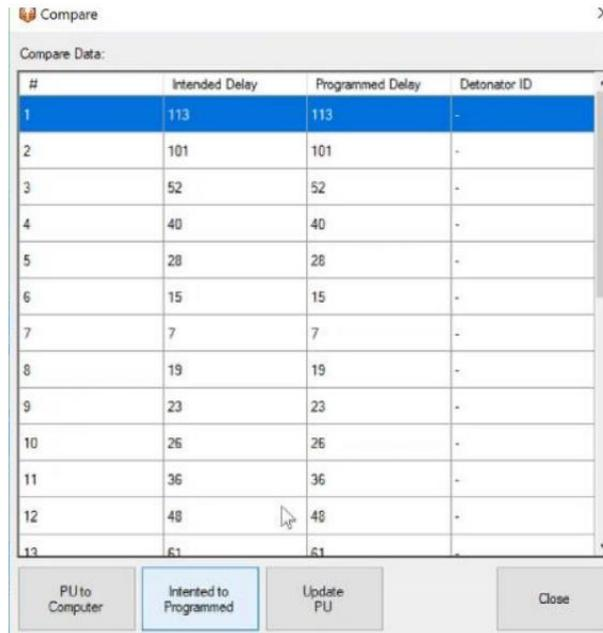

Fig. 333 - Intended delay to being programmed
1. The user clicks on the button "Intended to be programmed" (Fig. 333).